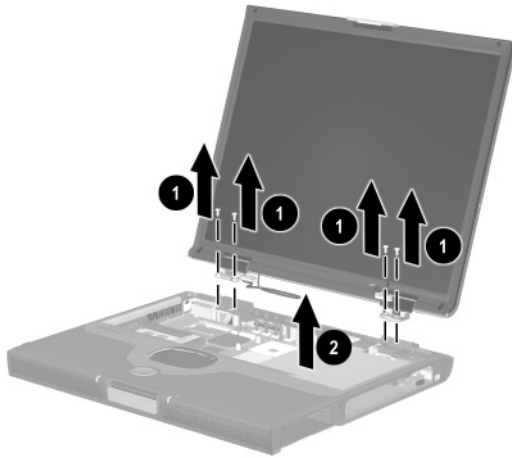

Figure 5-24. Removing the Display
9. Remove the four TM2.5 × 9.0 screws **1** that secure the display to the base enclosure (Figure 5-24).